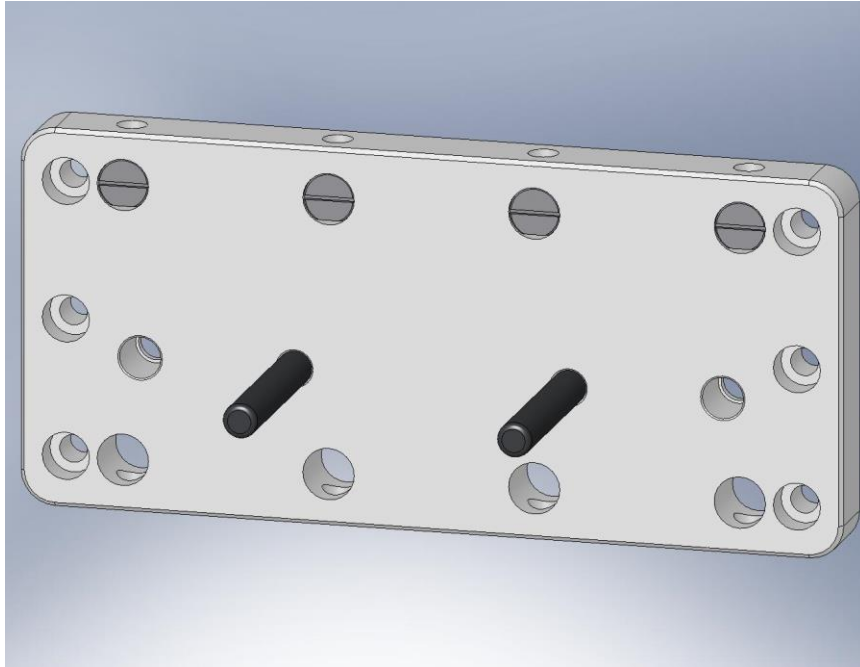

Figure 3.53. Slip in (4) Type 01 Barrel Nuts through the top holes of the Keel Wall. Note the dowel pins are below the mid-plane.
- Place (4) **Type 01 Barrel Nuts** (D071250-01) into the holes lining the top of a **Keel Wall**, as shown in Figure 3.53. The flats should face away from the screw holes.